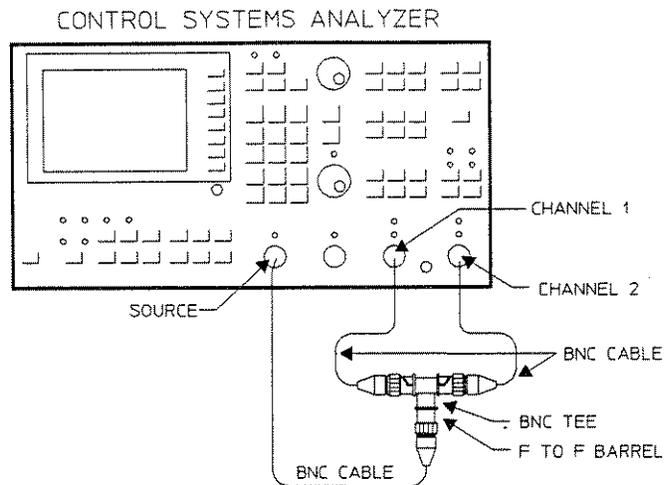

Figure 3-5. Amplitude and Phase Match Setup
1. Connect the HP 3563A as shown in Figure 3-5. The cables to Channel 1 and Channel 2 must be the same length.